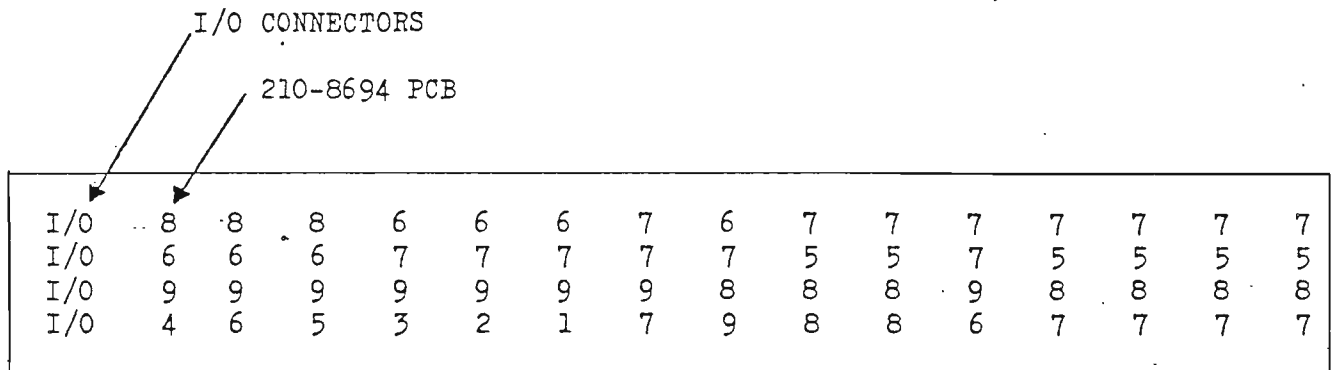

Figure 1. 2200 LVPC Motherboard Layout
- c. Remove the 210-8694 PCB from the LVPC card cage. The 210-8694 PCB is located next to the I/O connectors (see figure 1).